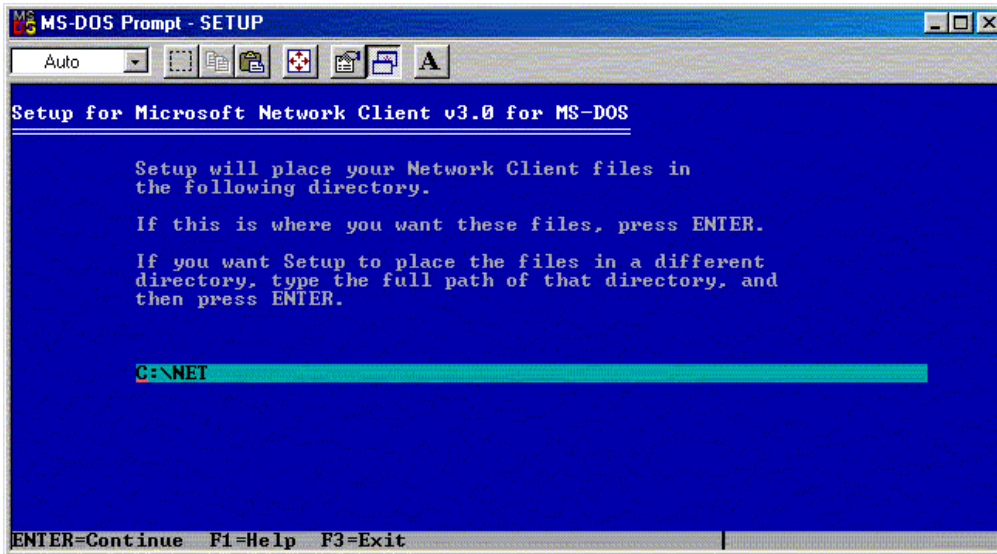

Figure A-7: Default installation directory for network files
4. Press the **Enter** key to continue. A screen that indicates the default installation directory for network files is displayed, as shown in Figure A-7. The network files default installation directory is \NET on the local hard drive.